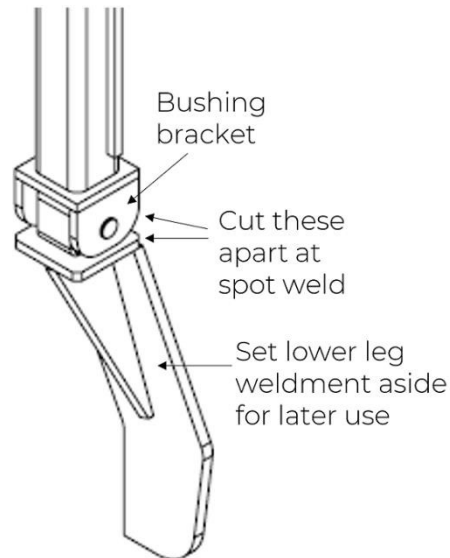

Figure 5: Cut off the short leg below the bushing bracket.
1. Cut off the short leg below the bushing bracket where it was spot welded at the factory, as shown in Figure 5 below. Grind off any remaining spot welds.